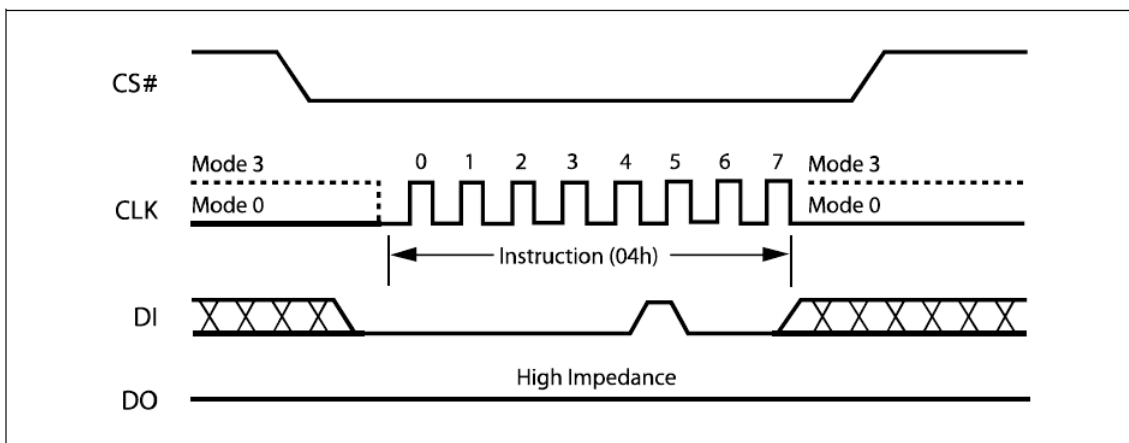

Figure 9. Write Disable Instruction Sequence Diagram
The Write Disable instruction (Figure 9) resets the Write Enable Latch (WEL) bit in the Status Register to a 0 or exit from OTP mode to normal mode. The Write Disable instruction is entered by driving Chip Select (CS#) low, shifting the instruction code "04h" into the DI pin and then driving Chip Select (CS#) high. Note that the WEL bit is automatically reset after Power-up and upon completion of the Write Status Register, Page Program (PP), Quad Input Page Program (QPP), Sector Erase, Half Block Erase (HBE), Block Erase (BE) and Chip Erase instructions.